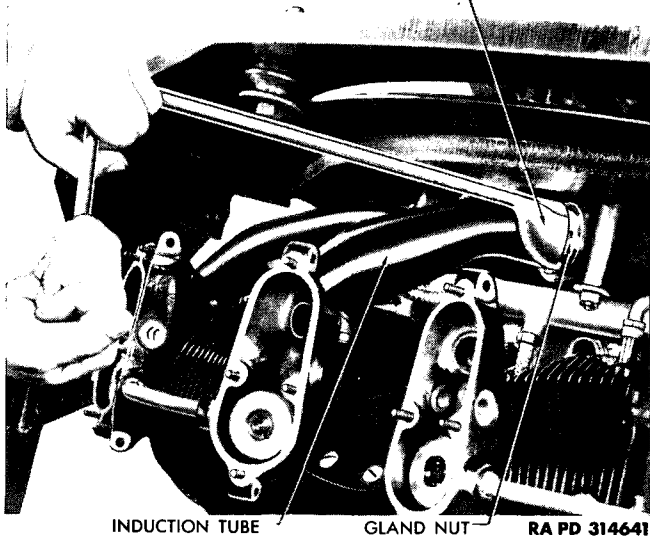

Figure 51 – Removing Fuel Induction Tube Gland Nut
k. Remove Fuel Induction Tubes. Unscrew gland nut at inner end of each fuel induction tube (fig. 51) using wrench (41-W-1537).